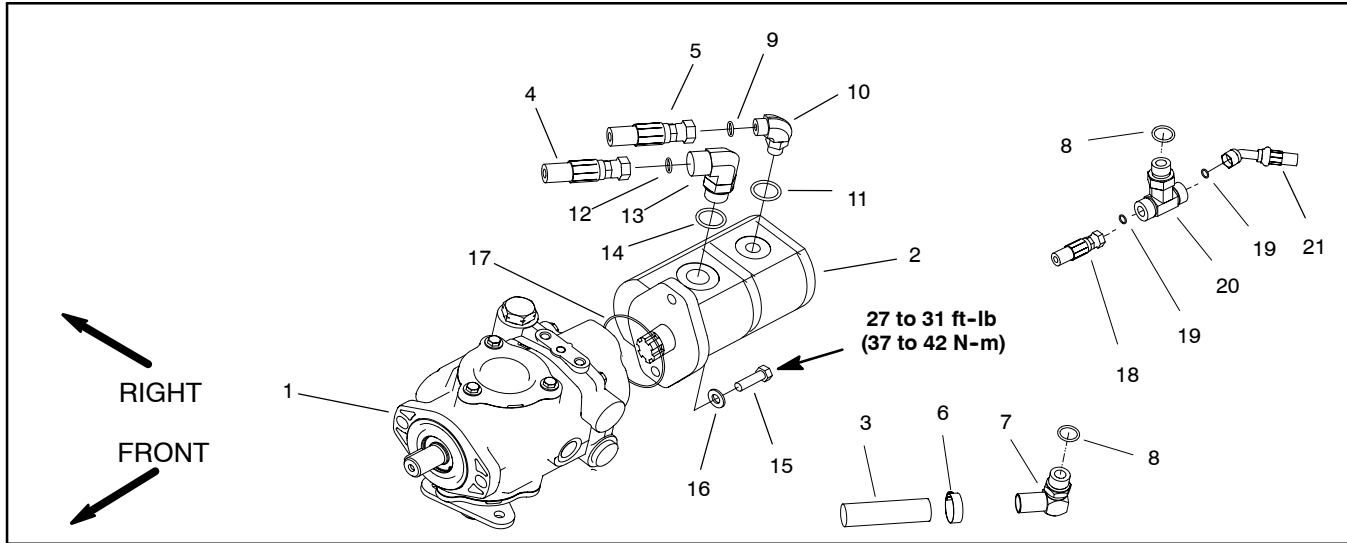

Figure 55
Removal (Fig. 55)
6. Remove gear pump from the piston pump using Figure 55 as guide.
Installation (Fig. 55)
1. Install gear pump to the piston pump using Figure 55 as guide.